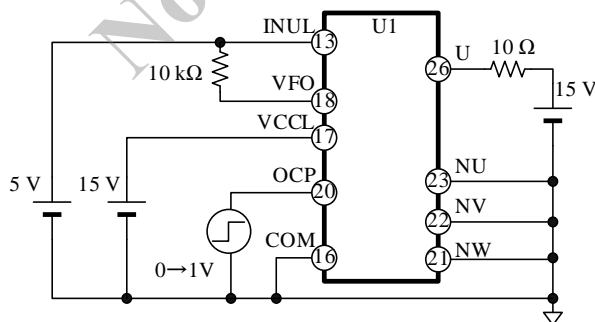
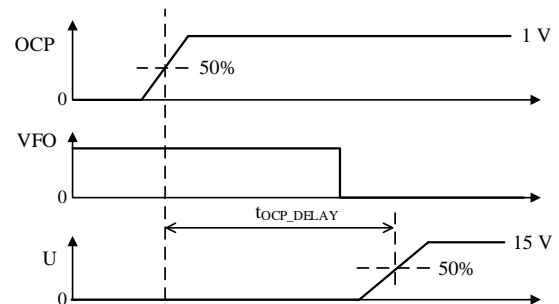

Figure 4-1. Measurement Circuit for OCP Pin Detection Delay Time
Figure 4-2. OCP Pin Detection Delay Time Definition
(4) For the measurement circuit for the OCP Pin Detection Delay Time, see Figure 4-1 (all the pins that are not represented in the figure are open). Figure 4-2 provides the definition of the OCP Pin Detection Delay Time.